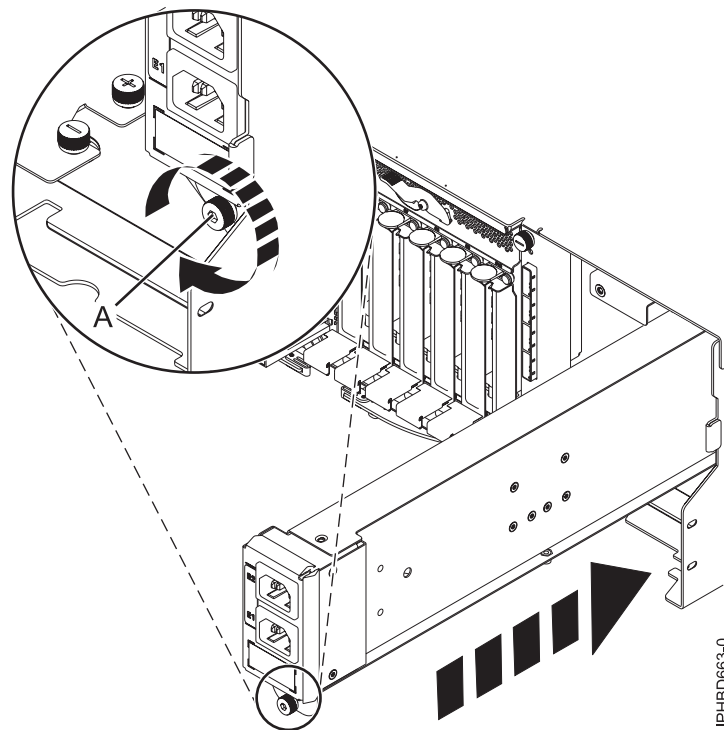

Figure 30. Replacing an input power distribution assembly
5. Push the input power distribution assembly into the expansion unit until it latches into place, and then tighten the thumbscrew (A) to secure the assembly in place as shown in Figure 30.